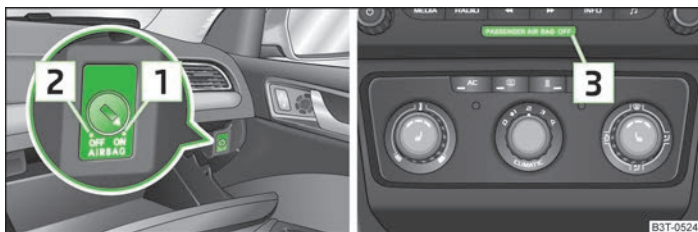

Fig. 146 Storage compartment: Switch for the front passenger airbag/indicator light for the deactivated front seat passenger airbag
The front passenger airbag can be switched off with the key-operated switch » Fig. 146 on page 153.
- Switched off airbags are indicated in the middle of the dash panel by the indicator light **OFF** in the display **PASSENGER AIR BAG OFF** coming on » Fig. 146 on page 153.
- Use the key to turn the slot of the key switch into position **2** » Fig. 146 **OFF**.
- Check that the airbag indicator light **OFF** in the display **PASSENGER AIR BAG OFF** in the middle of the dash panel lights up **3** » Fig. 146 when the ignition is turned on.
- Use the key to turn the slot of the key switch into position **1** » Fig. 146 **ON**.
- Check that the airbag indicator light **OFF** in the display **PASSENGER AIR BAG OFF** in the middle of the dash panel does not light up **3** » Fig. 146 when the ignition is turned on.